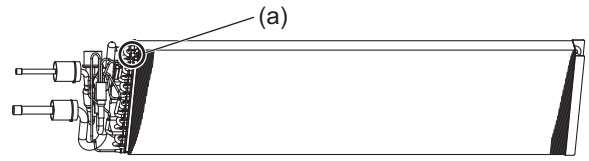

Fig.26
- In order to attach and fix the heat exchanger, insert the hook (a) on the heat exchanger (Fig.26) to (b) (Fig.27).